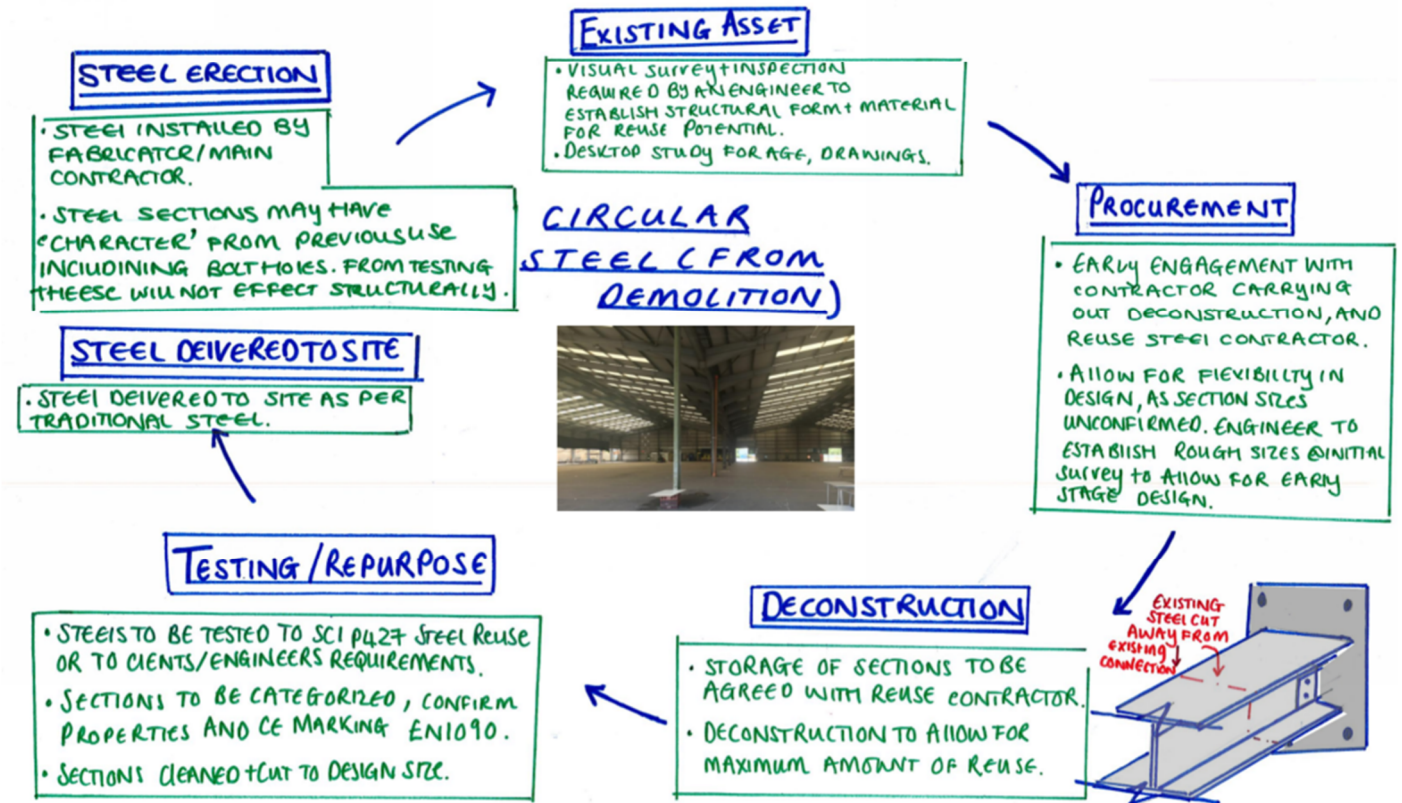

Figure 8 – Breakdown of process of reusing steel onsite.
- The [REDACTED] team approached me about achieving a low embodied carbon target within a project, as the site had a number of existing steel frame sheds, I suggested exploring the reuse of steel from onsite demolition to achieve low upfront embodied carbon Figure 8.